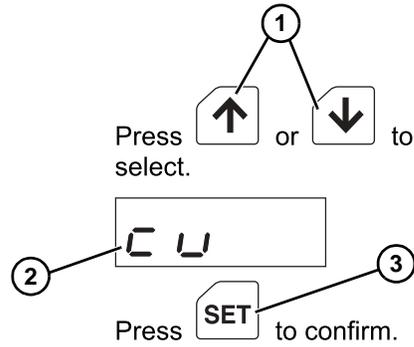

Figure 36
- Press up or down (Figure 36, item 1) to select the speed display mode “cv” (Figure 36, item 2), and then press SET (Figure 36, item 3):